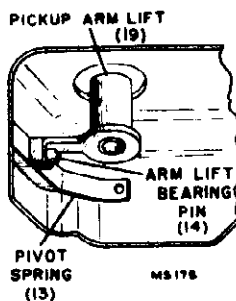

FIG. 6
1. With the mechanism out of cycle, lift tone arm and check and make certain tone arm lift 19 engages pin 14 as shown in fig. 6.